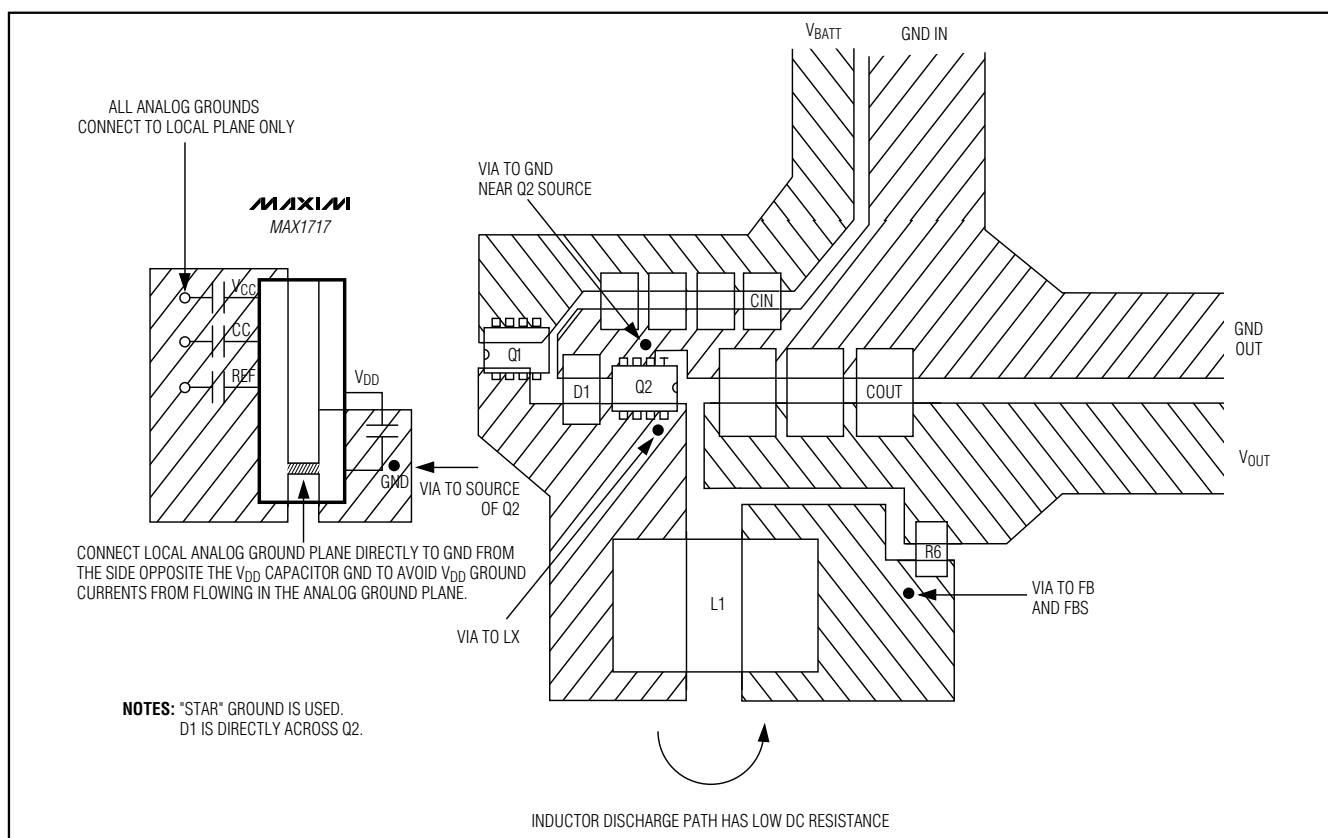

Figure 12. Power-Stage PC Board Layout Example
Careful PC board layout is critical to achieve low switching losses and clean, stable operation. The switching power stage requires particular attention (Figure 12). If possible, mount all of the power components on the top side of the board with their ground terminals flush against one another. Follow these guidelines for good PC board layout:
- 4) Make the DC-DC controller ground connections as shown in Figure 12. This diagram can be viewed as having three separate ground planes: output ground, where all the high-power components go; the GND plane, where the GND pin and V_{DD} bypass capacitors go; and an analog ground plane where sensitive analog components go. The analog ground plane and GND plane must meet only at a single point directly beneath the IC. These two planes are then connected to the high-power output ground with a short connection from GND to the source of the low-side MOSFET Q2 (the middle of the star ground). This point must also be very close to the output capacitor ground terminal.